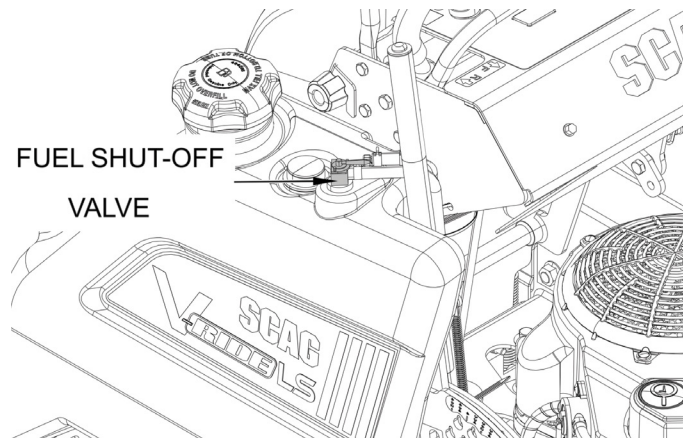

Figure 7-8. Fuel Shut-Off Valve
1. Close the fuel shut-off valve. See Figure 7-8.